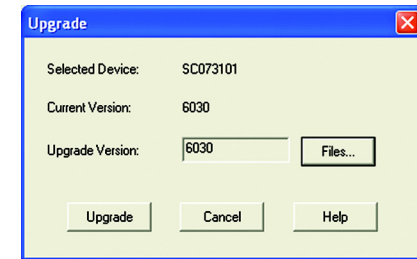

Figure 7-20: Upgrade
- 1 On the *Upgrade* screen shown in Figure 7-20, click the **Files** button.